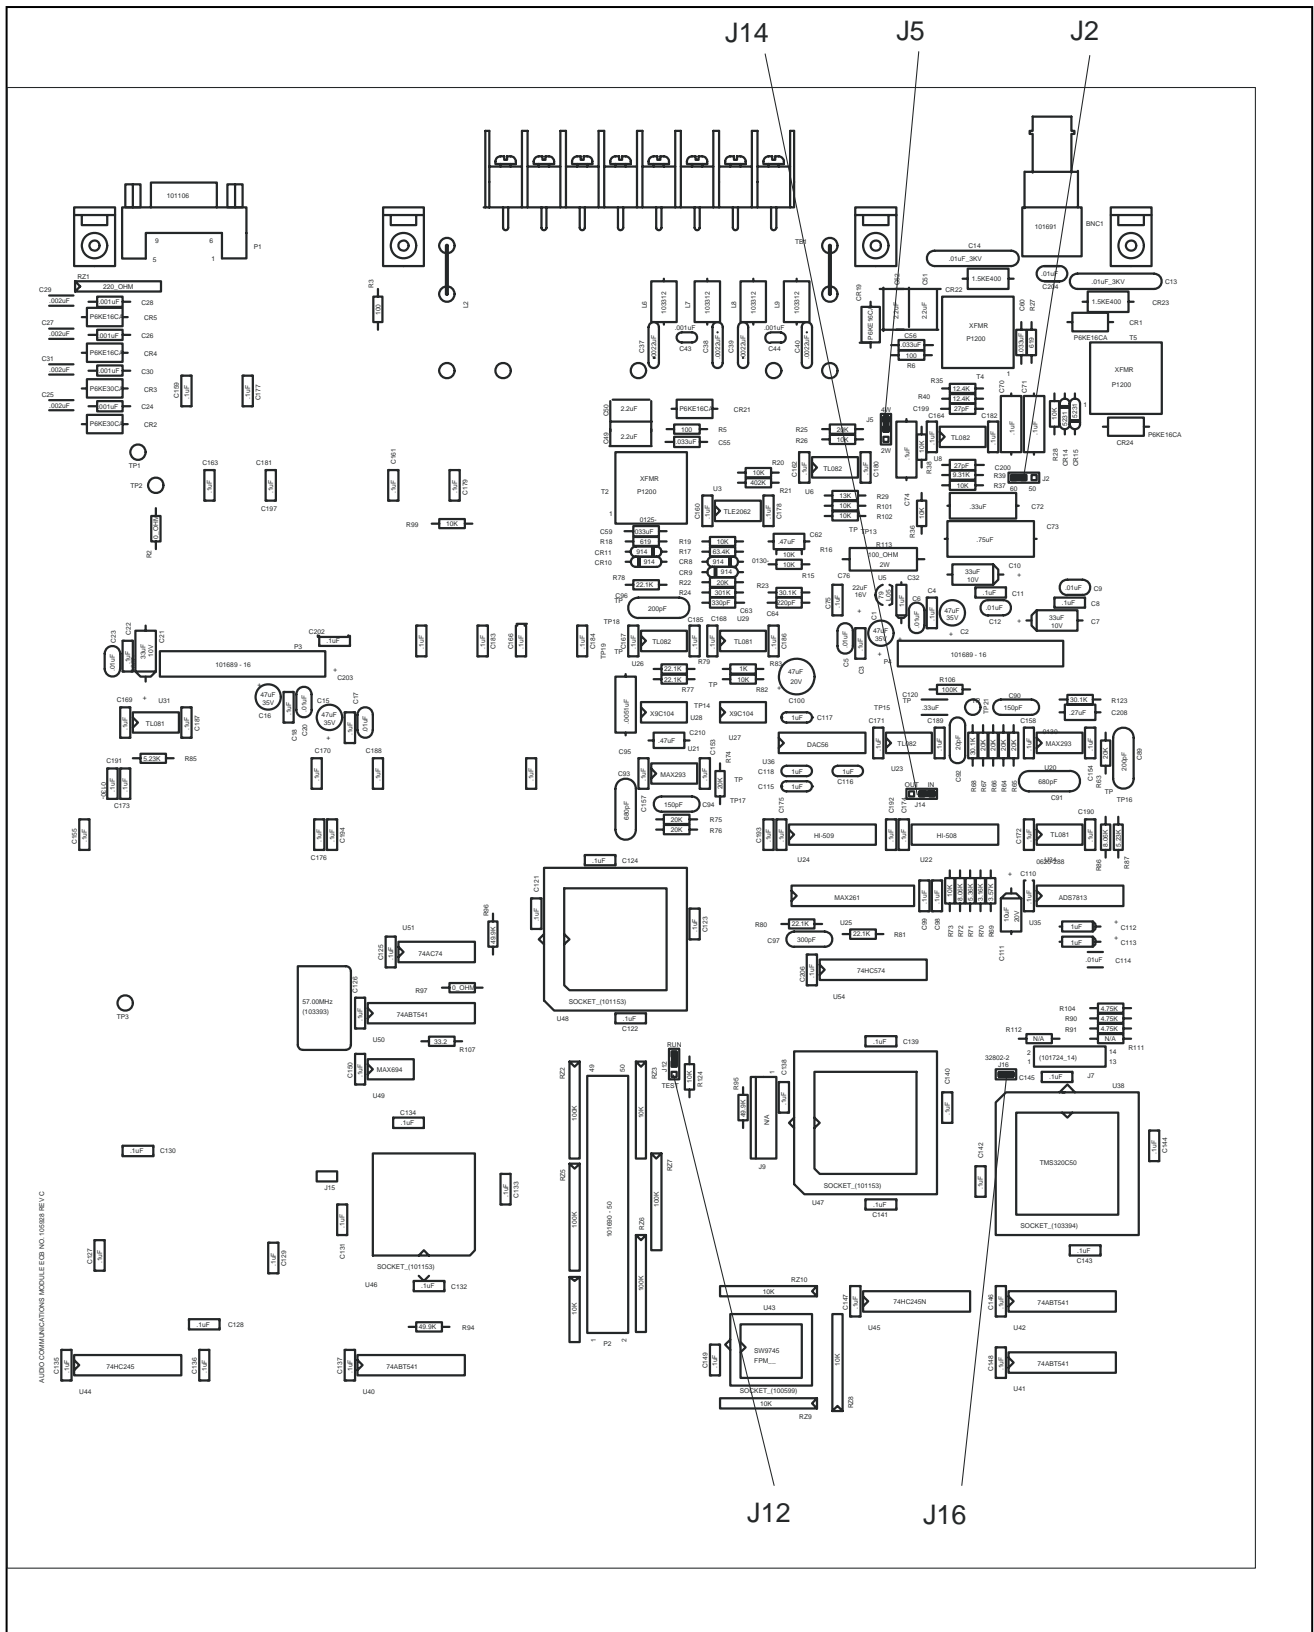
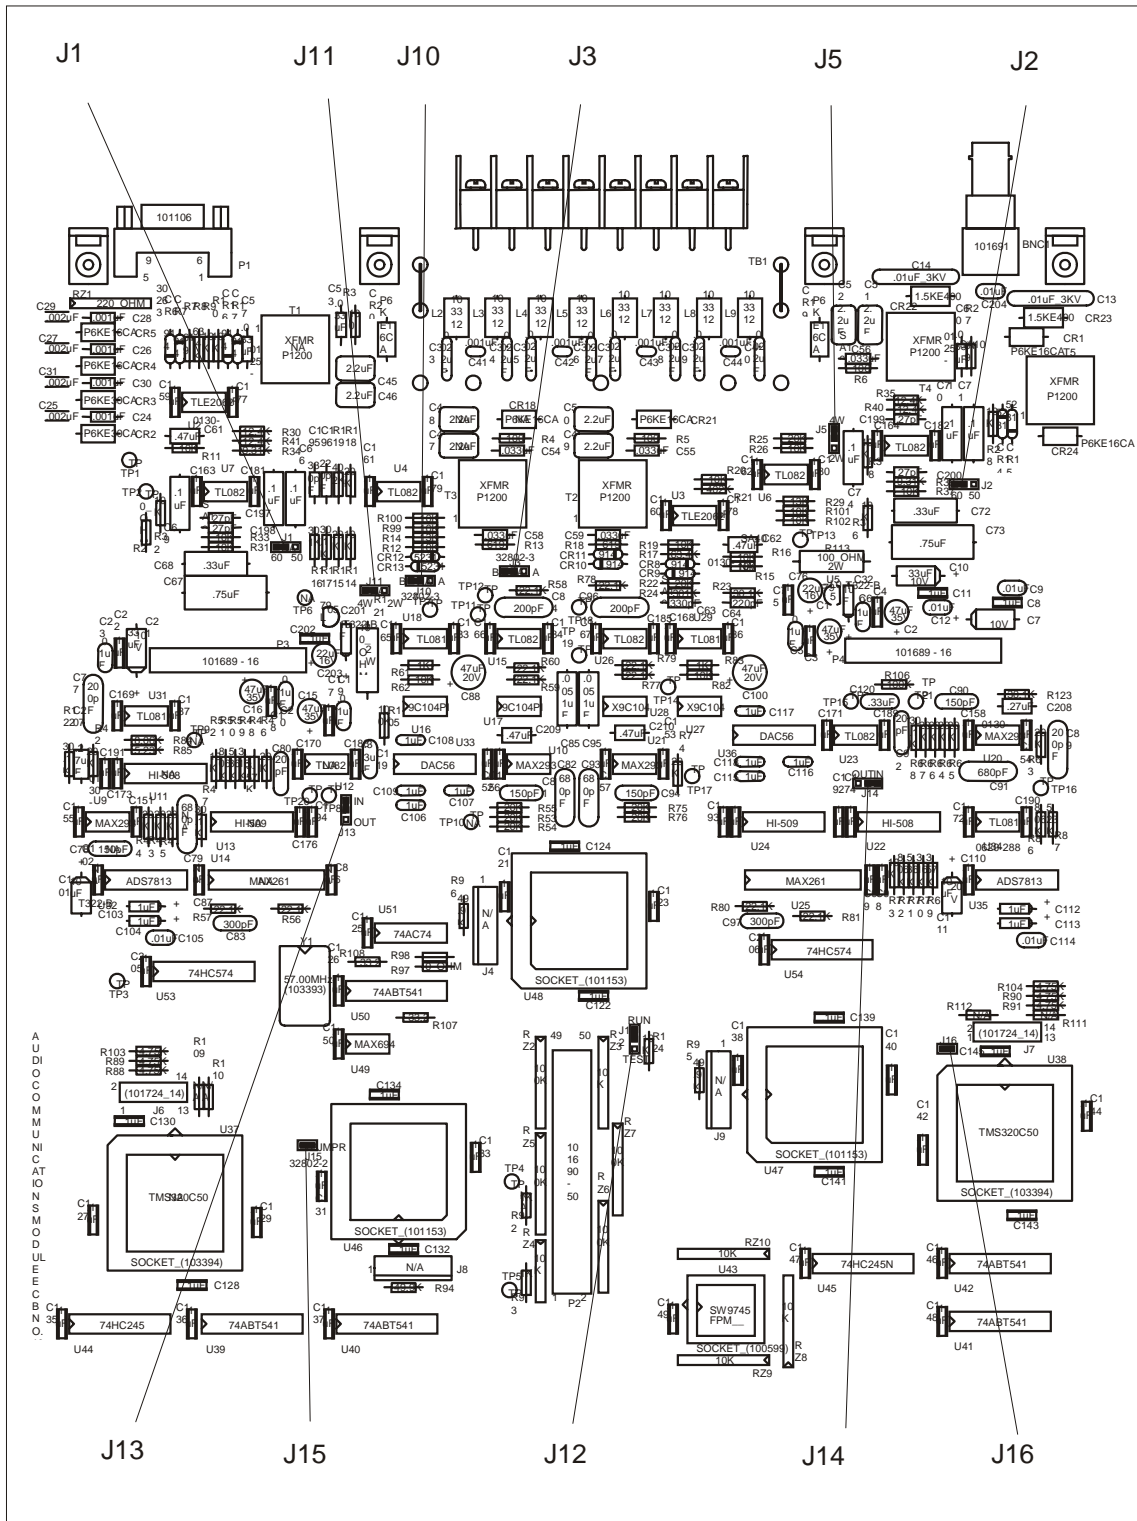

Figure 3-20. Location of jumpers on the two-tone wide band Audio Communications Module
Figure 3-21. Location of jumpers on the four-tone wide band Audio Communications Module
There are two versions of the wide band Audio Communications Module. Each version uses the same basic printed circuit board but only certain portions of each board are populated with components. The two-tone version of the module has five programmable jumpers as shown in Figure 3-20. The four-tone version of the module has eleven programmable jumpers as shown in Figure 3-21. Each version can be supplied with screw type terminal blocks or compression type terminal blocks. Refer to Table 3-7 for additional information.
* Parameter 061 as shown in Figure 5-1 must be set to match the J10 jumper setting on the Four Tone Audio Communications module (See Figures 3-21 for location).